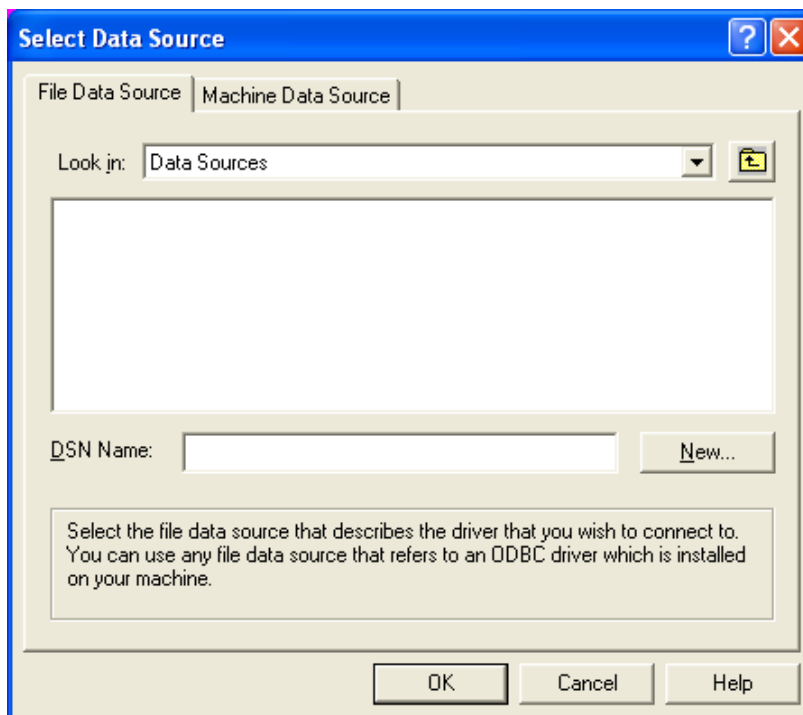

Figure 4-5
- **Change Database Connection:** Change the data source (see Figure 4-5).